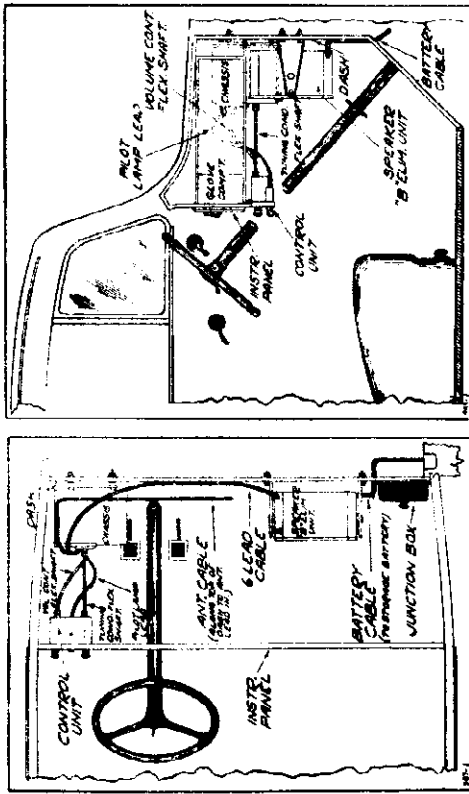
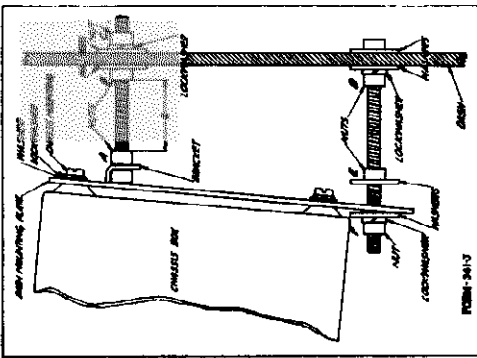
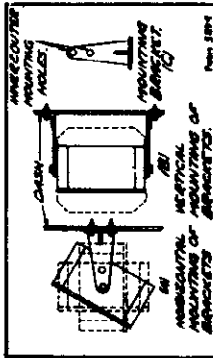
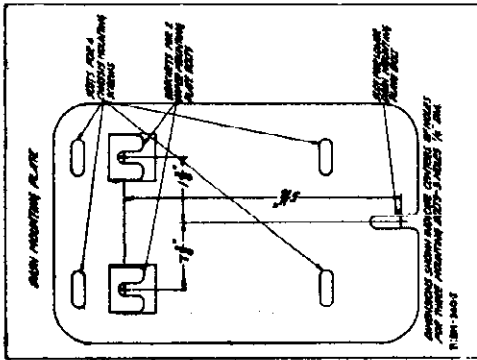

Fig. 1—General Installation—Top View
Fig. 4—Details of Chassis Mounting on Dash after which the lockwashers and nuts are then put on.
Fig. 5—Method of Mounting Speaker
Fig. 3—Dash Mounting Plate
Before mounting the chassis read the articles on "Mounting the Control Unit" and "Attaching the Flexible Drive Shafts." Hold the control unit in position or mount it in place temporarily, so that the position of the flexible shafts can be determined. The chassis is mounted in back of the dash at the left side, as shown in Fig. 1. It should be mounted in such a way that the tuning condenser flexible drive shaft to the control unit will be in substantially a straight line as shown in Figs. 1 and 2. The chassis is mounted with the wadler bushings in which the flex. shafts go, facing the control unit, and with the cover at the bottom. It is secured to the dash by means of the dash mounting plate, see Fig. 4. In some of the earlier models it will be necessary to mount the cut-out box to a higher location in order to mount the chassis.
First drill the three mounting holes required for the dash mounting plate. The location and size of these holes is shown in Fig. 3. A template for drilling these holes is supplied with the set. Three 4/8 square head mounting bolts are supplied. Take two of these, which will be used for the upper part of the mounting plate, and screw on nut "A" (see Fig. 4). The nut should be just far enough away from the head of the bolt to permit the bracket of the mounting plate to slip down, as shown in the illustration.
For these holes is at a point where the tuning condenser flexible drive shaft to the chassis will be in substantially a straight line (see Figs. 1 and 2). Before mounting the control unit permanently attach the flexible shafts, as explained in the next article, and attach the pilot lamp plate to the bottom of the unit, as explained in the article on "Completing the Wiring Connections."
The speaker—"B" eliminator is mounted on the back of the dash by means of two brackets, as shown in Fig. 3. The best location is at the right side of the dash under the glove compartment as shown in Figs. 1 and 2. It should be mounted with the brackets at the side as shown in (A) Fig. 5, and with the inner bracket mounting holes as indicated in (B) Fig. 5. The box is mounted with the tone control knob at the upper left, as shown in Fig. 1. The
In Fig. 3 (B) is shown how the brackets may be mounted vertically if space does not permit their being mounted horizontally, as is the case in some cars.
After the chassis is temporarily mounted and the position of the control unit is known, the flexible shafts may be attached. Remove the chassis from the mounting bolts to make the connection. The Cadillac and LaSalle shafts are supplied with the Cadillac and LaSalle auto receiver, one 9" and one 12" long. The 9" shaft is the tuning condenser flexible shaft and is put on substantially a straight line, as shown in Figs. 1 and 2. The 12" shaft is the volume control shaft. This shaft bends upward from the control unit, as shown in Fig. 2.
As shown in Figs. 1 and 2, the battery cable is brought down the dash, through a hole in the dash and thence over to the battery. It passes through the raised portion of the battery compartment cover.
The six-lead cable between the chassis and the speaker—"B" eliminator is usually brought over along the dash as shown in Fig. 1.